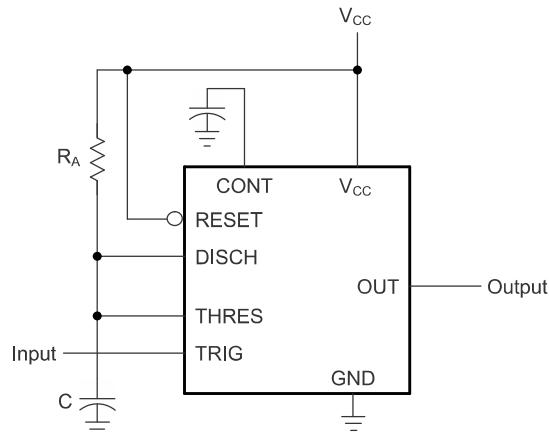
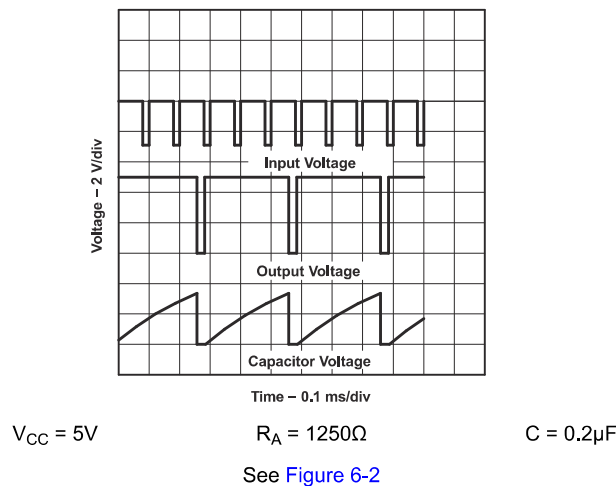

Figure 6-2. Circuit for Monostable Operation
Figure 6-8. Divide-by-Three Circuit Waveforms
- (1) For conditions shown as MIN or MAX, use the appropriate value specified under *Recommended Operating Conditions*.
(2) Values specified are for a device in a monostable circuit similar to Figure 6-2, with the following component values: $R_A = 2k\Omega$ to $100k\Omega$, $C = 0.1\mu F$.
For monostable operation, Figure 6-2 shows how to connect any of these timers. If the output is low, application of a negative-going pulse to the trigger (TRIG) sets the flip-flop ($\overline{Q}$ goes low), drives the output high, and turns off Q1. Capacitor C is then charged through R_A until the voltage across the capacitor reaches the threshold voltage of the threshold (THRES) input. If TRIG has returned to a high level, the output of the threshold comparator resets the flip-flop ($\overline{Q}$ goes high), drives the output low, and discharges C through Q1.
Figure 6-5 shows that adding a second resistor, R_B , to the circuit of Figure 6-2 and connecting the trigger input to the threshold input causes the timer to self-trigger and run as a multivibrator. Capacitor C charges through R_A and R_B and then discharges through R_B only. Therefore, the duty cycle is controlled by the values of R_A and R_B .
By adjusting the length of the timing cycle, the basic circuit of Figure 6-2 can be made to operate as a frequency divider. Figure 6-8 shows a divide-by-three circuit that makes use of the fact that retriggering cannot occur during the timing cycle.